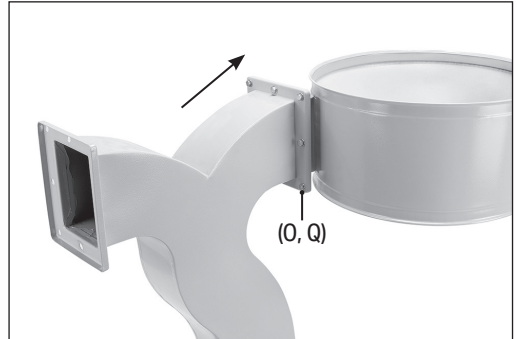

Fig. 8
- c. Pass eight M8 x 16mm bolts (O) each through a washer (Q), then through the extraction chute, gasket and collection bag duct to fix the parts in place (Fig. 8).